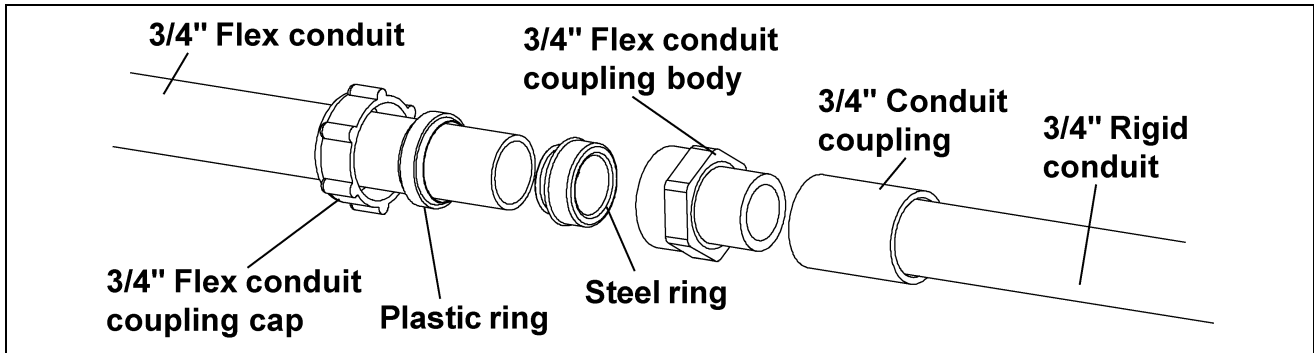

Figure 5AB
4. Thread a steel ring into the 3/4" flex conduit. *(See Figure 5AB.)*
5. Thread the 3/4" flex conduit coupling cap onto the 3/4" flex conduit coupling body. *(See Figure 5AB.)*
- D. Attach the 3/4" x 12" liquid-tight flex conduit to the other end of the rigid conduit using one 3/4" conduit coupling and one 3/4" liquid-tight flex conduit coupling. *(See Figure 5AC.)*